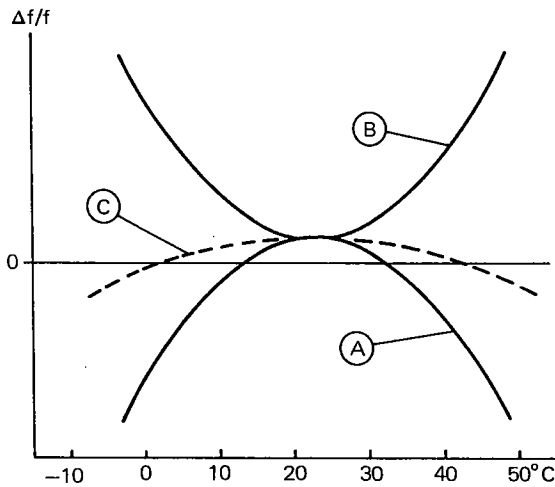

Fig. 2
Fig. 2 shows the compensation of frequency which is performed by a temperature compensating condenser. As mentioned in 1), an ordinary quartz crystal oscillator varies its frequency by the temperature as shown by curve (A).